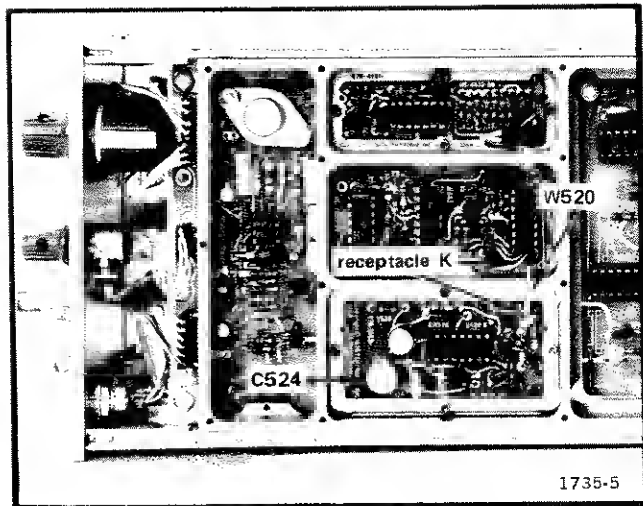

Fig. 4-2. Location of receptacle K, W520, and C524.
a. Connect a frequency counter, through a 1X probe, to receptacle K or W520; and the Input to a vertical amplifier, through a 10X probe, to receptacle K or W250 (Fig 4-2).
b. Adjust the Mode Adjust C524 (Fig. 4-2) so the 52.5 MHz oscillator starts at any position of the TRACKING ADJUST control as the power is turned off and on. (Power should be off long enough for the supply voltage to decay before switching back on.)